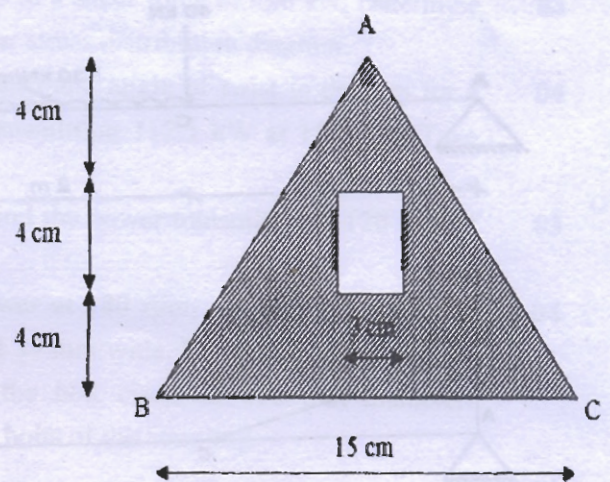

Fig. 6
- (b)** A rectangular hole is made in a triangular section as shown in **Figure 6**. Determine the moment of inertia of the section about XX-axis passing through its center of gravity and parallel to the BC. Calculate also the moment of inertia with respect to the base BC. 04